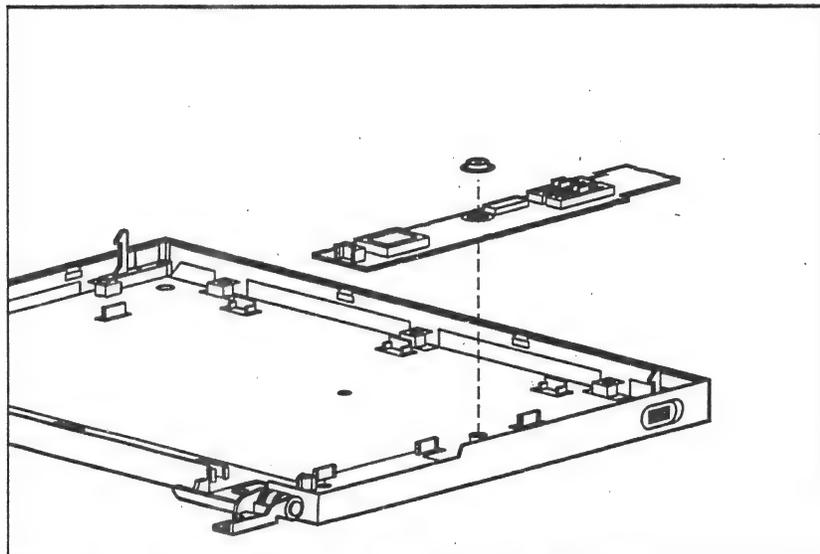

Figure 2-42. Removing the Display Inverter Board
4. Lift the display inverter board out of the display enclosure (Figure 2-42).